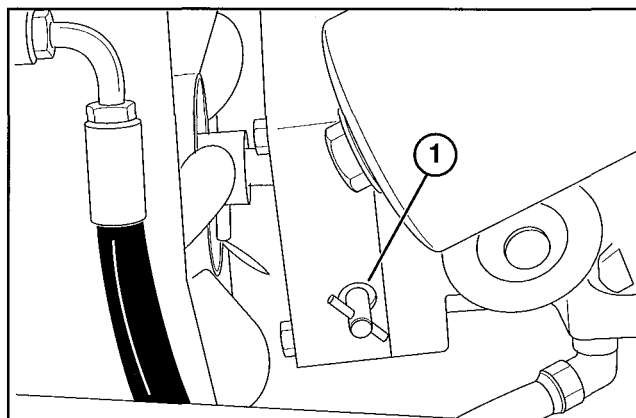

Figure 17
TOWING SAND PRO (Fig. 17)
1. Remove (3) screws securing side panel from left side of machine and remove panel.
2. Rotate by-pass valve on pump counterclockwise until it is fully open (Fig. 17).